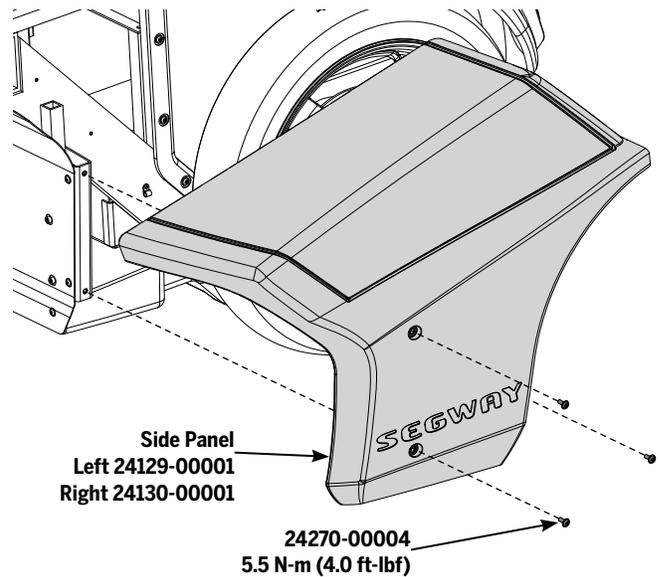

Figure 27: Side Fasteners
4. Using a 4 mm hex wrench, remove the three side fasteners as shown in **Figure 27**.
4. Using a 4 mm hex wrench, install the three side fasteners as shown in **Figure 27**. Torque to **5.5 N-m (4.0 ft-lbf)**.